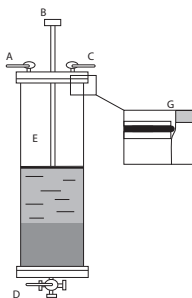

Fig 4. Schematic representation of INdEX column with a 4-port (2-way) valve mounted at the bottom outlet.
2	Pour the 75% slurry into the column. Fill the column with packing solution up to the top of the glass tube and mix the slurry. Allow the resin to sediment to just below the bevel of the glass tube (G), see Figure 4.